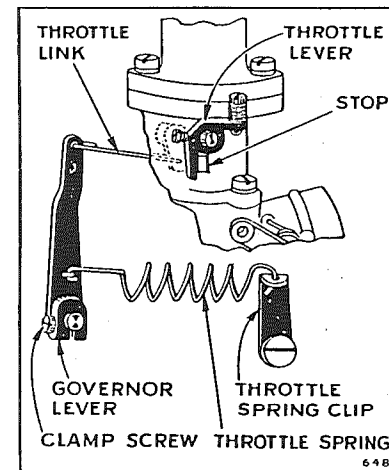

Fig. 9.
49. **Speed Adjustment.** Normal motor speed 1800 to 2400 R. P. M. To change motor speed, change tension of throttle spring by moving throttle spring clip. More tension on throttle spring increases speed, less tension reduces speed. (See Figure 9).
50. **Resetting Governor Lever.** If governor lever has been loosened on its shaft it is reset as follows; (See Fig. 9). With carburetor attached to motor and hooked up to governor lever with throttle link, loosen clamp screw which holds governor lever on its shaft. Hold upper end of governor lever firmly
53. Hook-up. First make sure that the throttle link has one end hooked through the hole in the top of the governor lever from the outside toward the crankcase and the other end hooked into the hole in the bottom of throttle arm on back of throttle shaft of carburetor (see Figure 9).